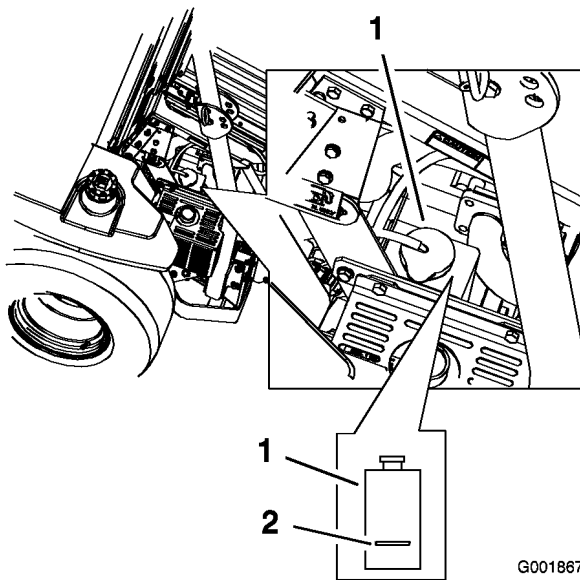

Figure 58
3. With the engine cool, check the overflow bottle level. The fluid needs to be up to the bump on the outside of the overflow bottle (Figure 58).
4. If the coolant level is low, add a 50/50 mix of extended life antifreeze/Dex-Cool® and water to the overflow bottle (Figure 58).
5. Add the 50/50 coolant mix to the overflow bottle and fill it to the indicator line on the bottle (Figure 58).